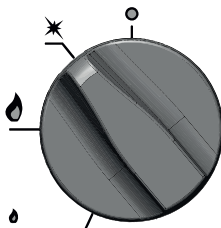

Figure 7. Setting the knob when only the pilot burner is gas-powered.
- Turn the knob to the „pilot burner” position as shown in Fig. 7 (counterclockwise)
- If you temporarily do not use the burner, turn the pilot knob to the „pilot burner” position (Fig. 7).